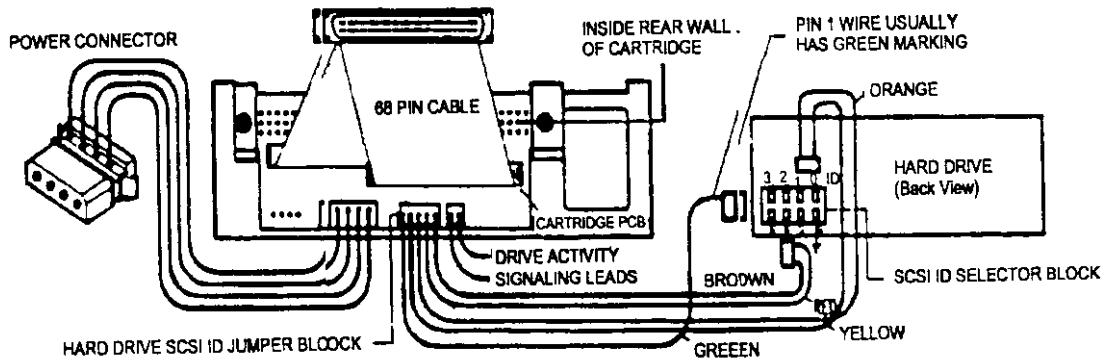

Figure 1.3 Mobile Rack Cabling Connections
7. Set the SCSI ID using your hard drive's external pins, see the right side of Figure 1.3 below. A typical jumper setting is shown below in Table 1.1. Look at your wires inside the canister, five wires in one group are colored, going from left to right, green, yellow, orange, red, and brown. They are